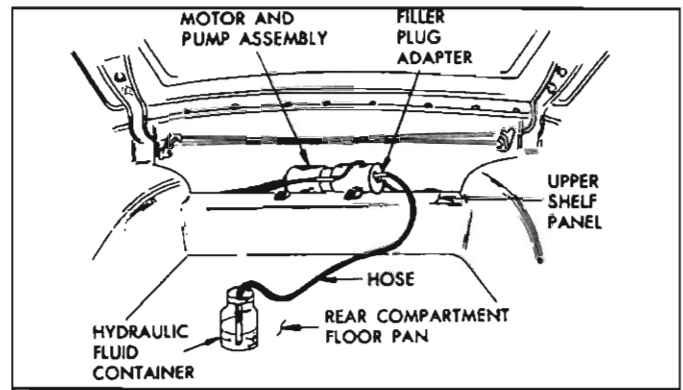

Fig. 76—Filling Hydraulic System
- d. Install opposite end of hose into a container of G.M. Hydraulic Brake Fluid Super No. 11 or equivalent. See Figure 76.